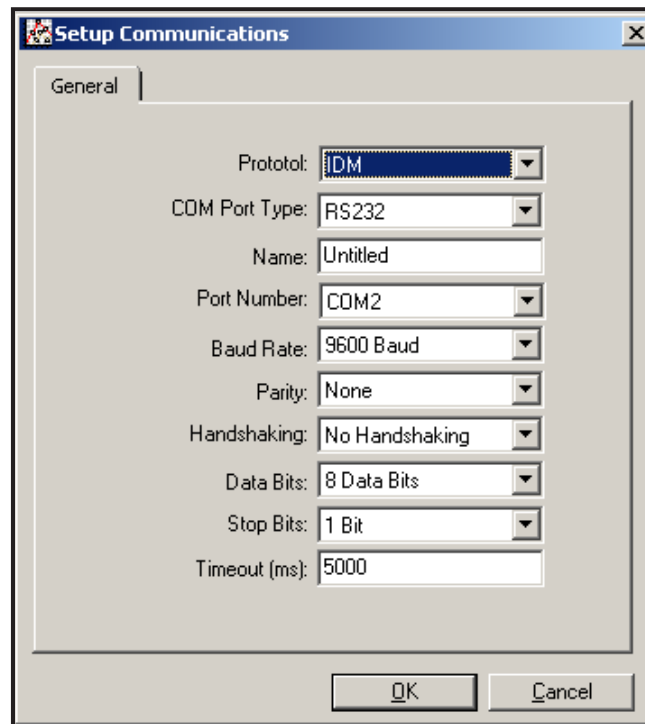

Figure 33: *Setup Communications* Screen
- Click on the *Communications Port* option to select it. The *Setup Communications* screen appears similar to Figure 33.